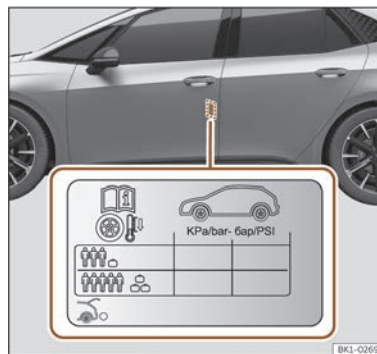

Fig. 205 Location of the tyre pressure sticker.
- Adjust tyre pressure to the load being carried by the vehicle >>> **Fig. 205**.
The tyre pressure values are shown on the sticker located on the rear frame of the front left door >>> **Fig. 205.**
The tyre pressure must be adjusted according to the load the vehicle is carrying. If the vehicle is going to be fully loaded, increase the tyre pressure to the maximum load value shown on the sticker >>> **Fig. 205.**
In the case of a minimised temporary spare wheel (125/70 R16 or 125/70 R18) inflate to a pressure of 4.2 bar as indicated on the tyre pressure label >>> **Fig. 205.**
- The driver is responsible for ensuring that all of the vehicle tyres are correctly inflated to the right pressure. The recommended tyre pressure is indicated on the label >>> **Fig. 205.**
- Tyre pressure should be as indicated on the label when the tyres are cold at all times >>> **Fig. 205.**